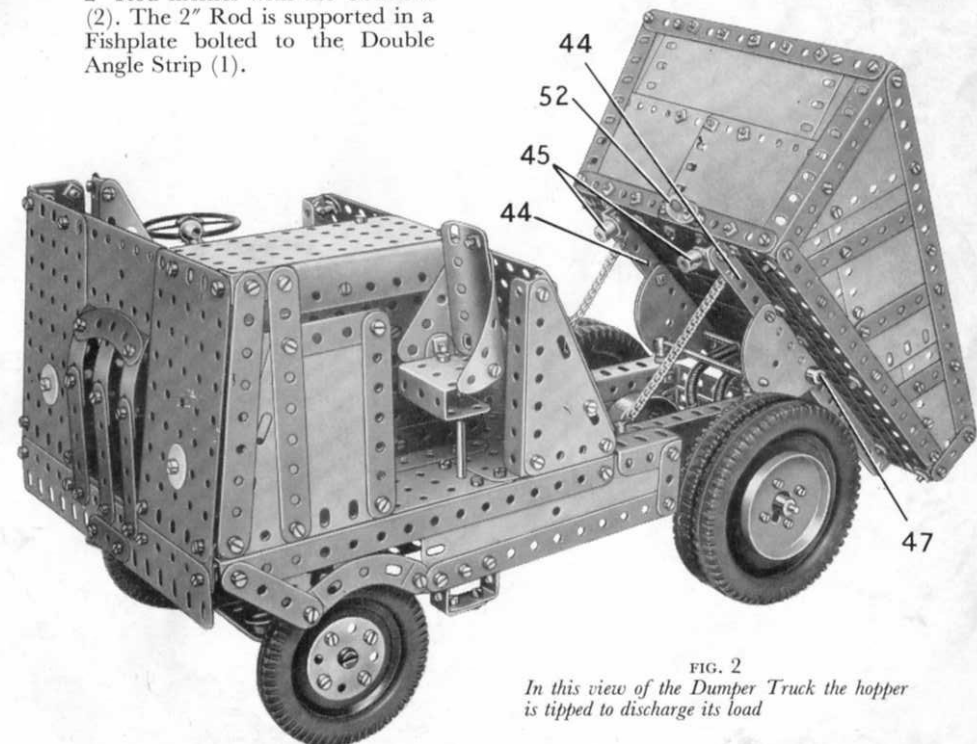
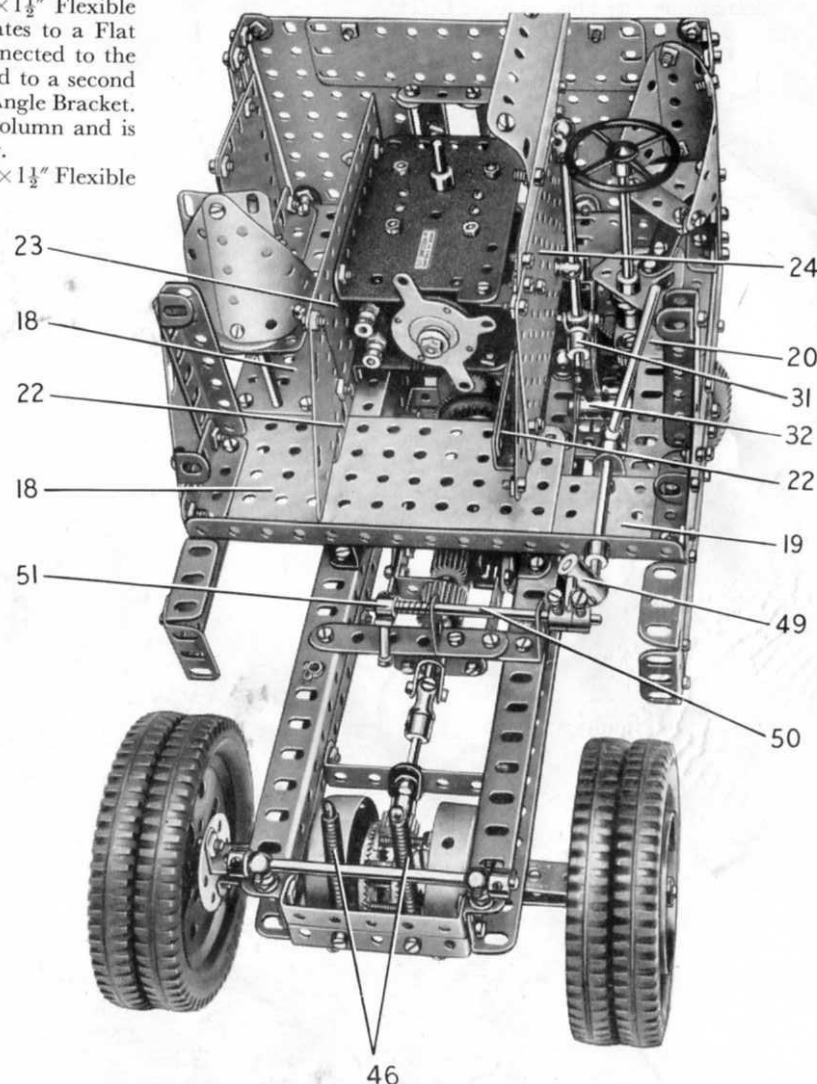

FIG. 2
FIG. 7. An end view of the Dumper Truck, with the hopper and the front of the body removed to show how the E20R Electric Motor is mounted in place
Construction of the Body (Figs. 2, 5 and 7)
The base frame of the body consists of four $7\frac{1}{2}''$ Angle Girders arranged in the form of a square. Two $5\frac{1}{2}'' \times 2\frac{1}{2}''$ Flat Plates (18) and two $3'' \times 1\frac{1}{2}''$ Flat Plates (19) and (20) are bolted to the frame (Fig. 7), and a $2\frac{1}{2}'' \times 1\frac{1}{2}''$ Flexible Plate is fitted in front of the Plate (20). A $3\frac{1}{2}''$ Flat Girder is fixed between the Flexible Plate and the Plate (19), and a $4\frac{1}{2}''$ Flat Girder (21) (Fig. 5) is bolted centrally to the rear end of the frame.
Two $5\frac{1}{2}''$ Angle Girders (22) (Fig. 7) are bolted to the Plates (18) and to the Flat Girder (21). A $5\frac{1}{2}'' \times 2\frac{1}{2}''$ Flat Plate (23) is attached by Fishplates to one of the Girders (22), and a $5\frac{1}{2}'' \times 3\frac{1}{2}''$ Flat Plate (24) is attached by Angle Brackets to the second Girder.
An E20R Electric Motor is bolted by its flanges to Flat Plate (23) (Fig. 7). The Motor is connected to Flat Plate (24) by $1'' \times \frac{1}{2}''$ Angle Brackets, and to one of the Girders (22) by $\frac{1}{2}'' \times \frac{1}{2}''$ Angle Brackets. A cover over the Motor is provided by a $5\frac{1}{2}'' \times 2\frac{1}{2}''$ Flat Plate and a curved $5\frac{1}{2}'' \times 2\frac{1}{2}''$ Flexible Plate bolted together. The cover is pivoted on Hinges bolted to the Flat Plate (24).
The gear-change lever is a $3\frac{1}{2}$ " Rod, fixed in a Handrail Support *lock-nutted* to Flat Plate (24) (Fig. 7). A Swivel Bearing (31) is fixed on the lower end of the lever, and is joined by a 1" Rod to a Rod and Strip Connector. A Pivot Bolt is passed through the Rod and Strip Connector and is fixed in a Coupling
The steering column is a $4\frac{1}{2}$ " Rod mounted in a Double Arm Crank bolted to Flat Plate (20) (Fig. 7). The Rod is held in place by a $\frac{1}{2}$ " fixed Pulley placed above the Arm Crank, and below the Flat Plate it is fitted with a $\frac{1}{2}$ " diameter $\times \frac{1}{2}$ " face Pinion. This Pinion engages a 57-tooth Gear (41) (Fig. 5), which is freely mounted on a $\frac{1}{2}$ " Bolt held by two nuts in the Flat Plate (20). A $3\frac{1}{2}$ " Strip is *lock-nutted* on a $1\frac{1}{8}$ " Bolt fixed in a Threaded Boss, attached to a Fishplate bolted to Gear 41. The other end of the Strip is *lock-nutted* to the $5\frac{1}{2}$ " Strips attached to the Cranks (40) (Fig. 6).
The seat for the second man is formed by a $2\frac{1}{2}$ " $\times 1\frac{1}{2}$ " Flexible Plate and two $2\frac{1}{2}$ " $\times 2$ " Triangular Flexible Plates attached by Angle Brackets to a Bush Wheel and a Channel Bearing (see Fig. 2). A $2\frac{1}{2}$ " Rod fixed in the Bush Wheel is held in a Double Arm Crank bolted underneath the body.
The floor of the hopper is formed by three $4\frac{1}{2}$ " $\times 2\frac{1}{2}$ " Flexible Plates and two $2\frac{1}{2}$ " $\times 1\frac{1}{2}$ " Flexible Plates, extended on each side by a $5\frac{1}{2}$ " $\times 1\frac{1}{2}$ " and a $2\frac{1}{2}$ " $\times 1\frac{1}{2}$ " Flexible Plate. The floor is strengthened by five $7\frac{1}{2}$ " Strips bolted to the Plates on the inside, and along the front edge are bolted a $4\frac{1}{2}$ " and a $3\frac{1}{2}$ " Flat Girder overlapped three holes. Two built-up girders (44) (Fig. 2), each made from a $5\frac{1}{2}$ " and a $2\frac{1}{2}$ " Angle Girder, are bolted to the underside of the floor.
Two Semi-Circular Plates placed face-to-face are bolted to each of the girders (44), and they pivot on a 4" Rod held in Handrail Supports fixed to the chassis. Two short lengths of Sprocket Chain are hooked through holes in the girders (44), and are looped over Cord Anchoring Springs screwed into holes in the chassis. Two Rod Sockets (45) (Fig. 2) are fixed to Angle Brackets bolted to the girders (44). Two Tension Springs (46) (Fig. 7) are bolted to the front of the chassis, and are passed over a $4\frac{1}{2}$ " Rod (47) (Fig. 2).
supported in the front $7\frac{1}{2}$ " Angle Girder of the body, and in an Angle Bracket bolted to Flat Plate (19) (Fig. 7). At its front end the 3" Rod carries a Coupling (49), which is fitted with a Centre Fork. The Centre Fork is located between two $\frac{3}{8}$ " Bolts, each of which is screwed into one half of a Dog Clutch on a $3\frac{1}{2}$ " Rod (50). This Rod is mounted in $1" \times 1"$ Angle Brackets bolted to a $3\frac{1}{2}$ " Strip fixed across the chassis. A Compression Spring is placed on Rod (50) between one of the Angle Brackets and a Collar (51). A $\frac{3}{8}$ " Bolt is screwed into the Collar and bears against the edge of the $3\frac{1}{2}$ " Strip to ensure that the $\frac{3}{8}$ " Bolts in the Dog Clutch remain in engagement with the Centre Fork. The end of Rod (50) passes into an Angle Bracket (52) (Fig. 2), which is spaced from the back of the hopper by a Collar on a $\frac{1}{2}$ " Bolt.